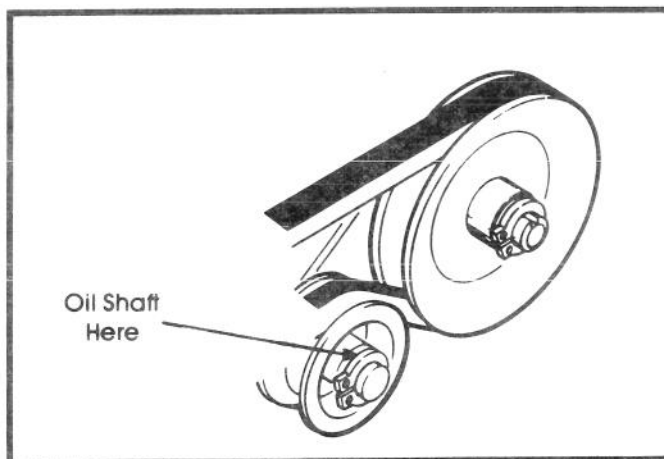

FIGURE 13
3. **Idler Pulley Shaft** - Oil shaft, Fig. 13, once a season (for average home use) using SAE 30 wt. oil. Turn idler pulley while oiling to distribute oil evenly. **NOTE:** Be careful not to get any oil onto the belt.